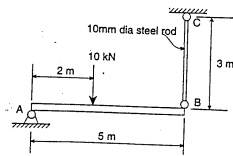

Fig 3
- ii) For the structure shown in fig. 3 determine:-